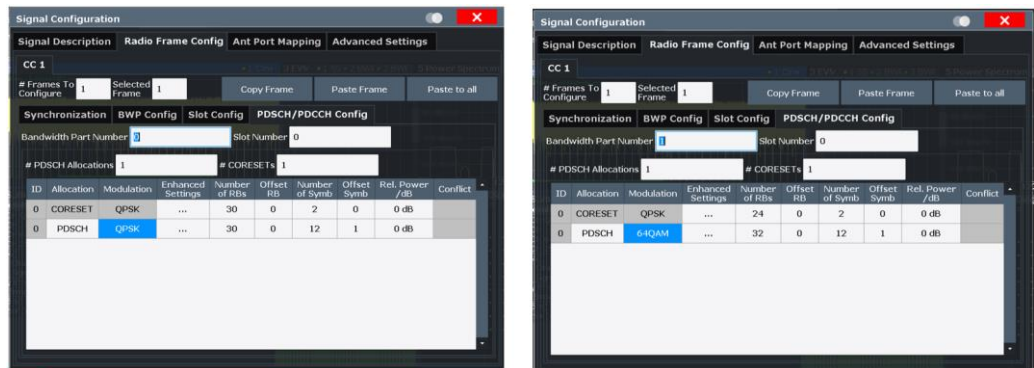

Fig. 2-13: PDSCH/PDCCH config settings in Radio Frame Configuration menu
- 1 Fig. 2-13 shows the PDSCH/PDCCH configuration for the two BWPs and needs to be configured accordingly